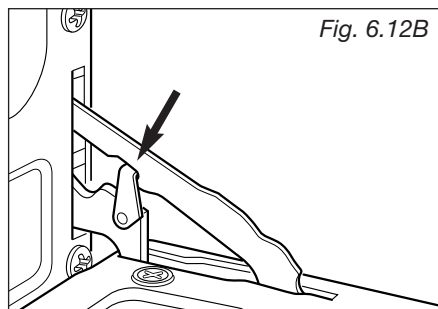

Fig. 6.12B
- Attach the retaining rings to the hooks on the left and right hinges (fig. 6.12B).